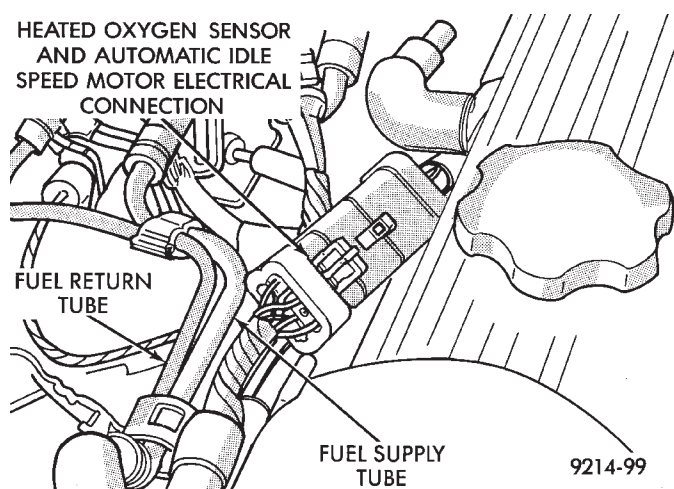

Fig. 7 Throttle Body Wiring Connection to Main Harness
(10) Verify the throttle body wiring connection to main harness is attached (Fig. 7).